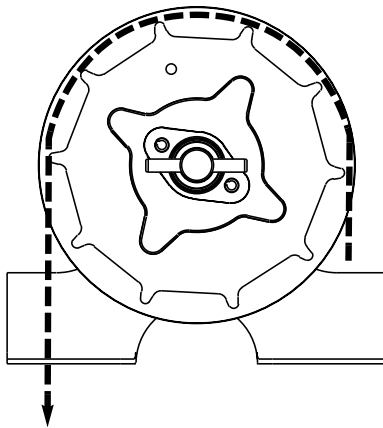

FIG. 1
- HOIST MODELS: Attach release cord to clutch shaft release lever and route as shown in FIG. 1.